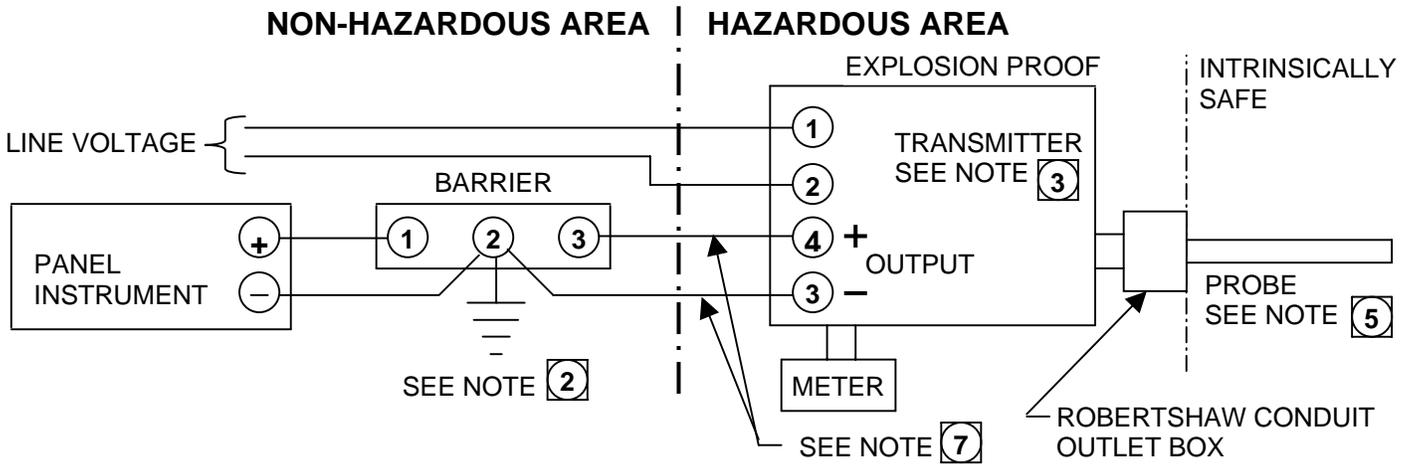

FIGURE 1 - SEE NOTE 1
3. Barriers must be connected in accordance with Robertshaw drawing 907GA518, Fig. 1.
6. Barriers must be connected in accordance with Robertshaw drawing 907GA695, Fig. 1 (907-600-695, Fig. 1).
- 1 In Figure 1, the transmitter is CSA Certified for hazardous locations, Class I, Division 1, Groups C & D; Class II, Division 1, Groups E, F & G. The probe is intrinsically safe for Class I, Division 1, Groups A, B, C & D, Class II, Division 1, Groups E, F & G.